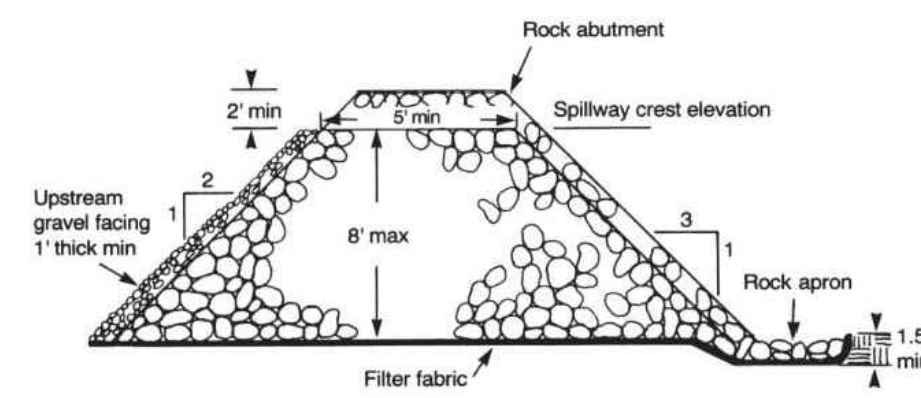

Figure 6.63b Rock dam cross section.
- Rock embankment** (Figure 6.63b):
- Protection from piping:** extra-strength filter fabric covers entire foundation including earth abutments and apron (Figure 6.63b).
**Protection from Piping** The entire foundation including both earth abutments must be covered by filter fabric. Overlap 1 ft at all joints, upstream strip over downstream strip (Figure 6.63b).